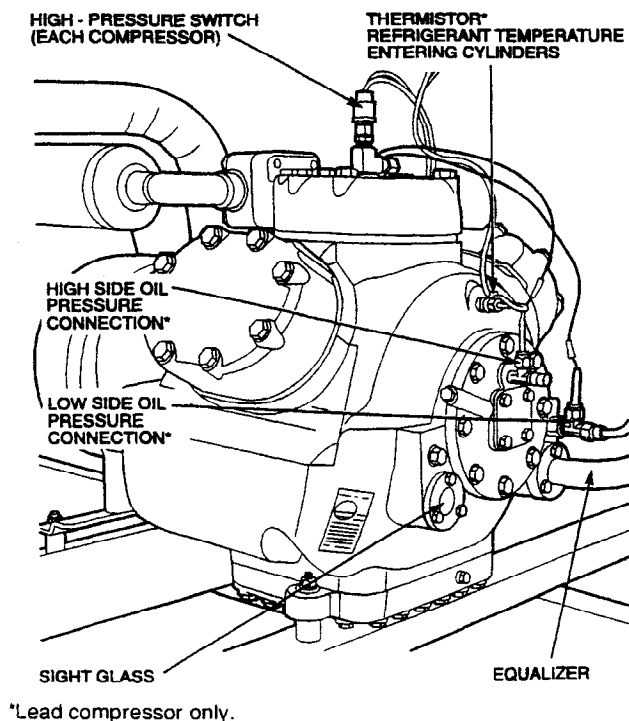

**Fig. 32 — Compressor Connections
9. Oil should be visible in the compressor sight glass. See Fig. 32. An acceptable oil level in the compressor is from $\frac{1}{8}$ to $\frac{3}{8}$ of sight glass. Adjust the oil level as required. No oil should be removed unless the crankcase heater has been energized for at least 24 hours. See Check Oil Charge section on page 54 for Carrier-approved oils.